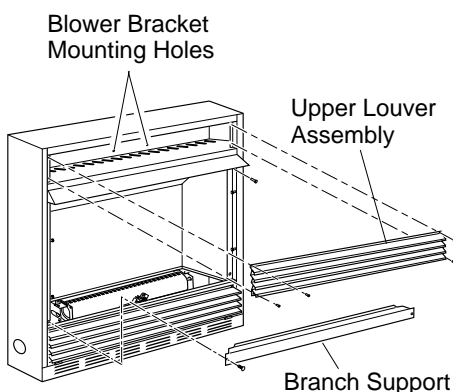
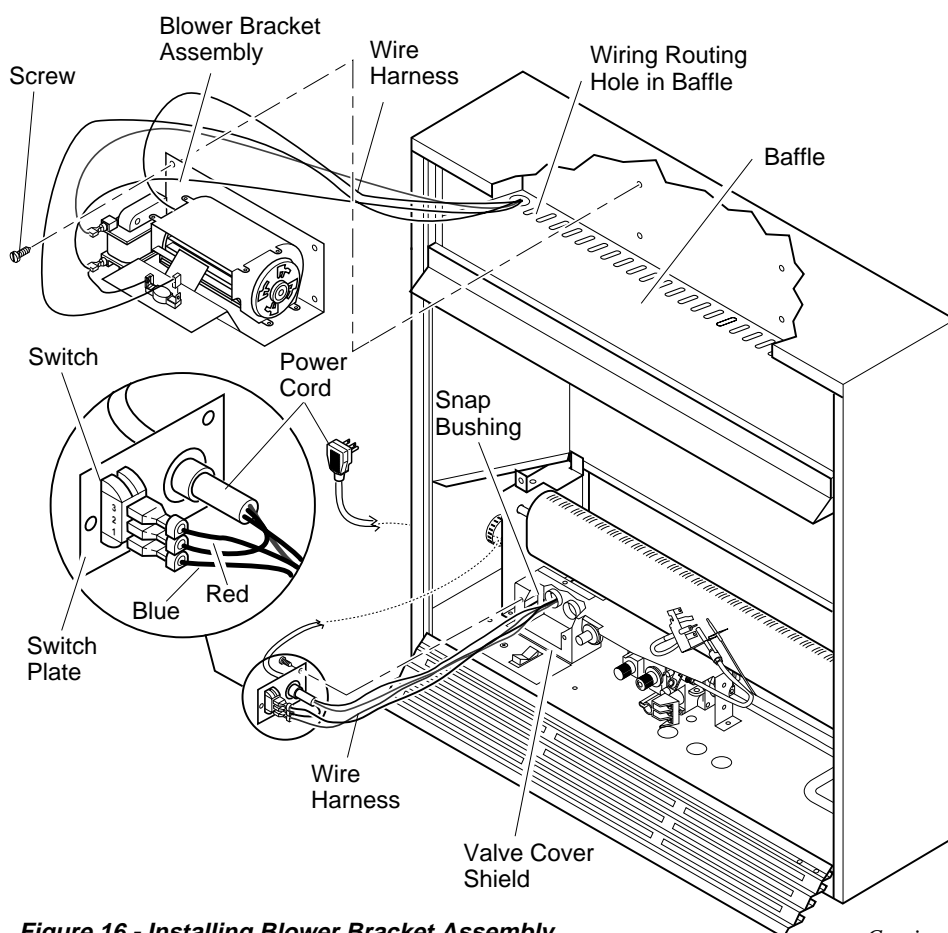
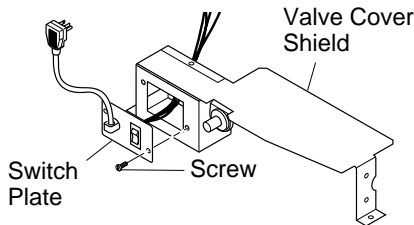

Figure 15 - Removing Upper Louver Assembly and Branch Support
Figure 16 - Installing Blower Bracket Assembly
Figure 17 - Installing Switch Plate to Valve Cover Shield
2. Remove 2 screws from each side of branch support and pull branch support out (see Figure 15).
3. Remove 4 brass-plated screws from louver assembly (see Figure 16). Save these screws.
3. Note the wire locations on back of AUTO/OFF/ON switch. The terminals on back of switch are numbered 1, 2, and 3. Carefully remove red wire from terminal 3 and blue wire from terminal 1. Black wire can remain on middle terminal 2 (see Figure 16).
5. In top of the heater cabinet, locate the four mounting holes on the outer casing. Align these four holes with those on the blower bracket assembly. Attach blower bracket assembly to the outer casing with 4 #10 screws provided (see Figure 16).
6. Route the wire harness through the hole in left side of baffle. Pull wire harness through lower opening on the side of the valve shield. (see Figure 16).
7. Insert the 4 wire harness into one of the round holes in the rear of the valve cover shield and through the rectangular hole in the front of shield (see Figure 16).
9. Install the switch plate on the valve cover shield (see Figure 17). Route power cord out of the cabinet by inserting it through the bushing on the outer casing (see Figure 16, page 11). Plug fan kit into 120-Volt grounded power supply and test operation. **Note:** When switch is in the AUTO position, the fan will start after the heater has run for a few moments. The fan will continue to run for several moments after the heater has been turned off. When switch is in the ON position, the fan will run until turned to OFF. Reinstall upper louver assembly (see Figure 15, page 11) and branch support. Close lower louver door.
6. Reinstall upper louver assembly (see Figure 15, page 11) and close lower louver.